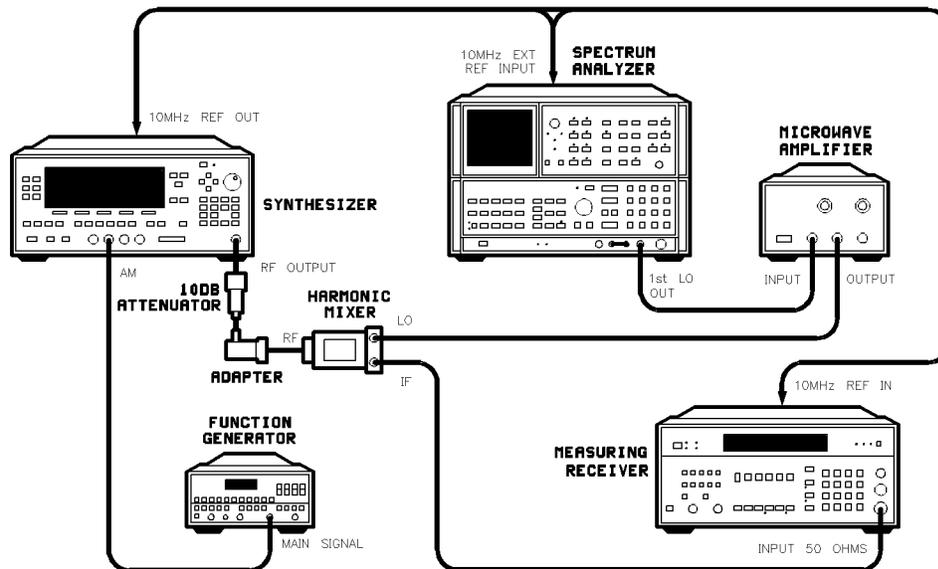

Figure 2-25. AM Accuracy Test Setup > 20 GHz
22. Connect the equipment as shown in Figure 2-25.